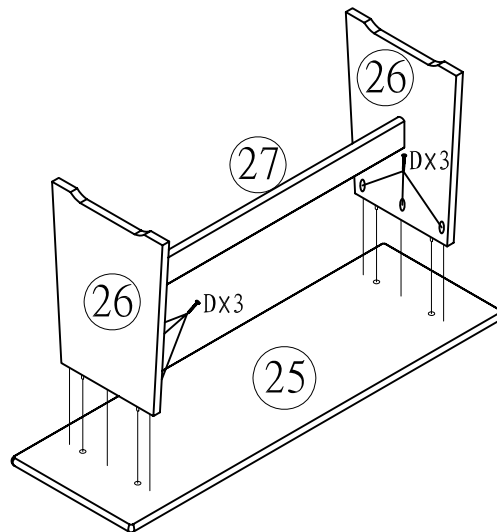

FIGURE 7
- 4.1 ATTACH ASSEMBLED LEGS TO SEAT #25 THROUGH FITTING WOOD DOWELS INTO HOLES LOCATED UNDERNEATH OF SEAT #25 AS SHOWN IN FIGURE 7. IT SERVES AS GUIDE ENABLING YOU TO CONNECT THE LEGS IN CORRECT POSITION.
- 4.2 USING PRE-DRILLED HOLES AS GUIDE, SECURE CONNECTION WITH (06) SCREWS (D) DRIVEN WITH PHILLIPS HEAD SCREW DRIVER (NOT ATTACHED) AS SHOWN IN FIGURE 7.